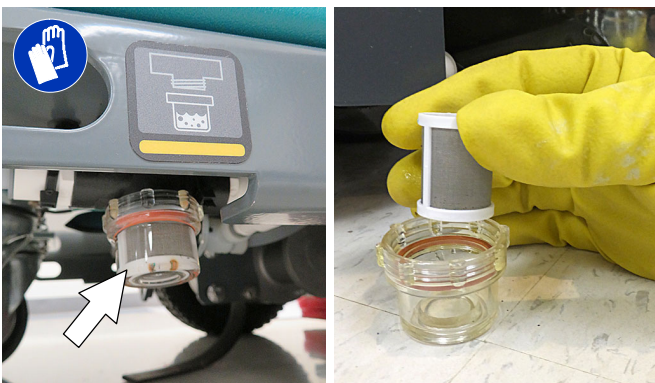

FIG. 109
1. Drain solution tank. Remove the solution tank filter and clean screen (Figure 109). Turn the filter bowl counter-clockwise to remove.